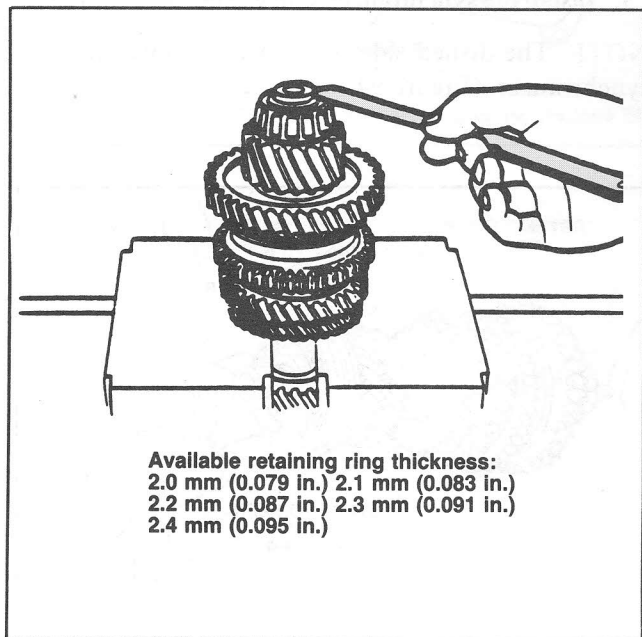

Figure 100 Snap Ring Clearance Measurement
9. Measure the clearance between the snap ring and the bearing inner race. (Figure 100).